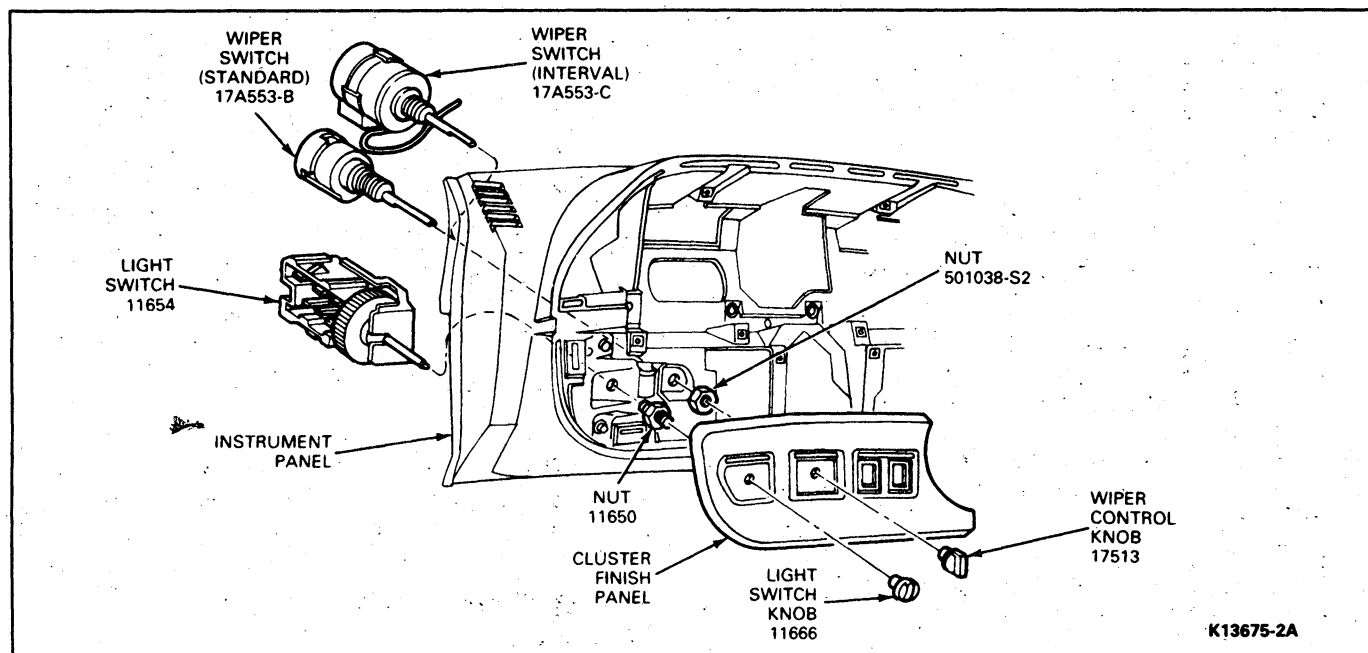

FIG. 14 Wiper Control Switch—F-150—F-350, F-Super Duty and Bronco
2. Remove the wiper switch knob, bezel nut, and bezel (Fig. 14).